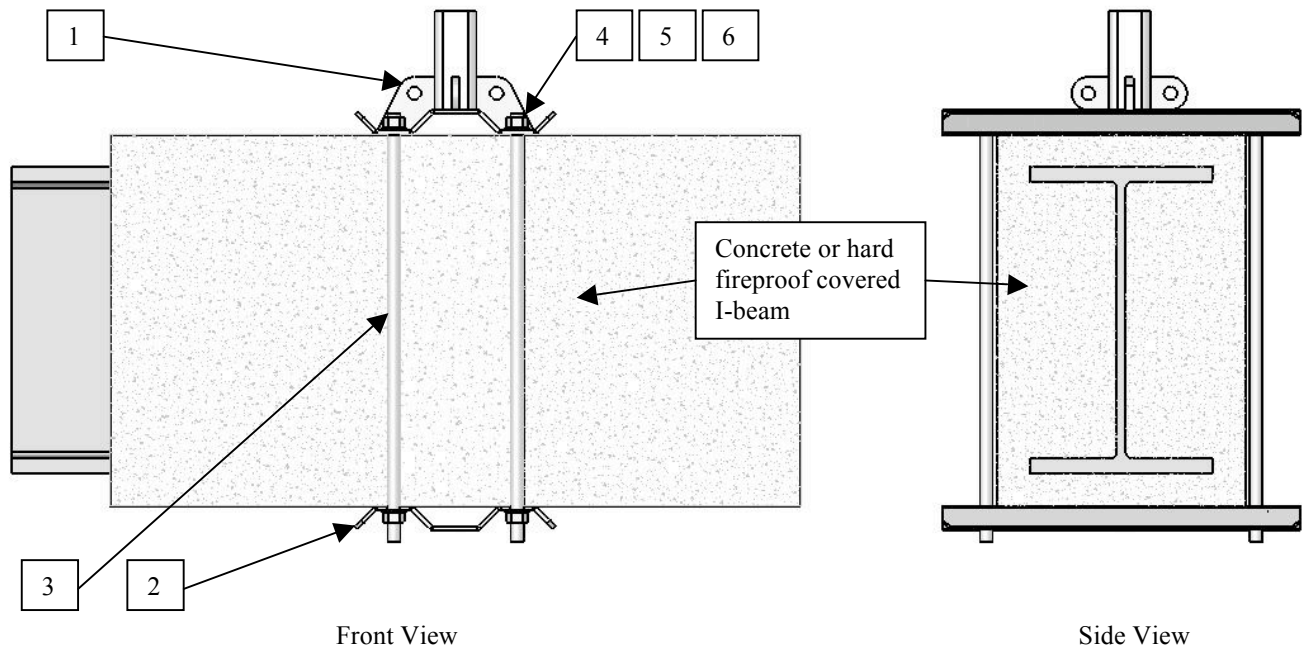

Figure 1 – Components of the Concrete Clad Beam Bracket
- 4 ea. Model 6173-1 Concrete Clad I-beam Bracket (upper and lower plate, and hardware, see Figure 1 for identification of components)